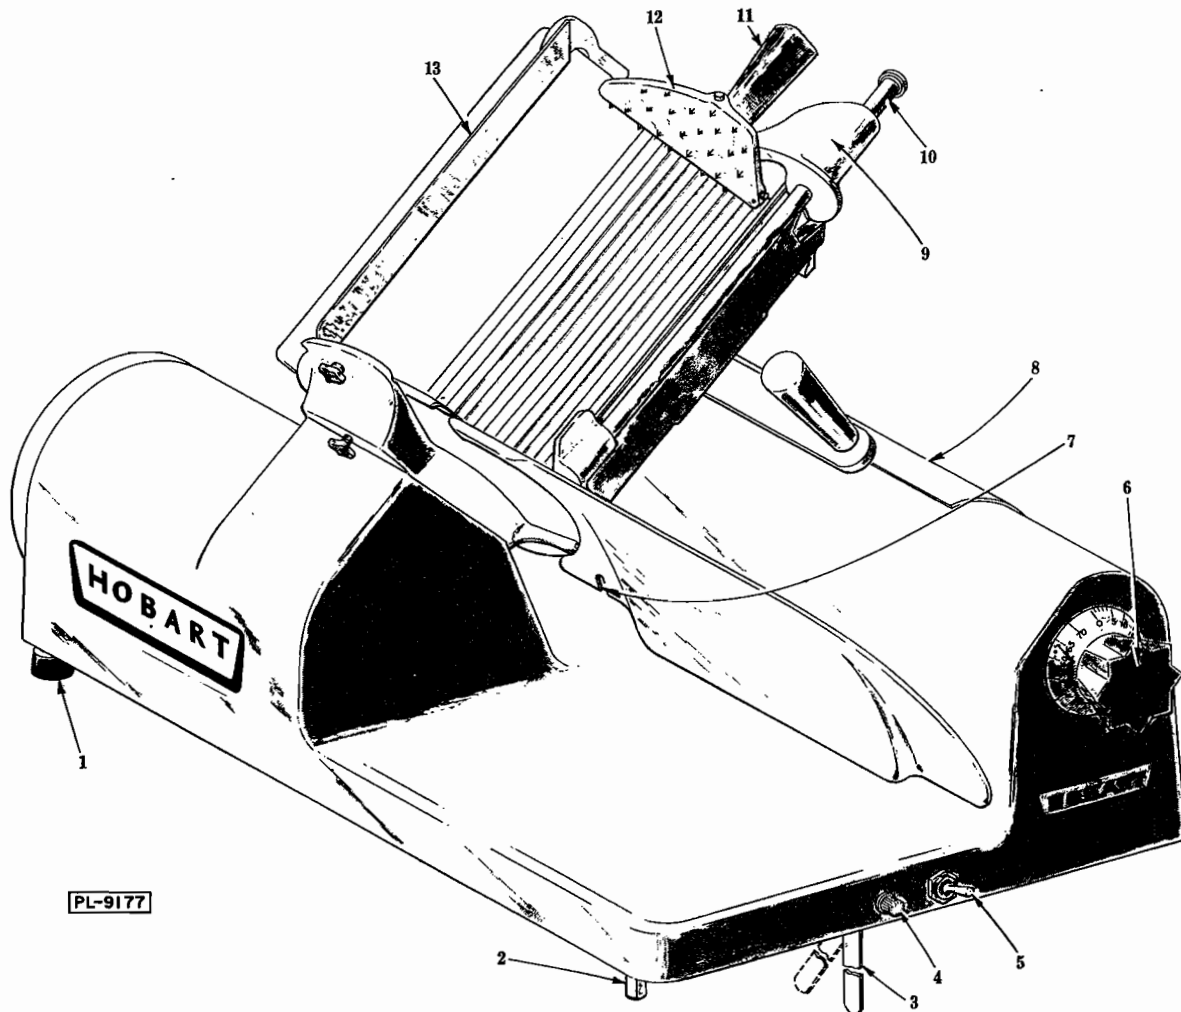

Fig. 1
The three rubber feet (1, Fig. 1) are assembled, but the one helper foot (2, Fig. 1) is removed when the machine is packed for shipment. The helper foot is shipped in a cloth bag and should be installed to the end of its thread at the corner of the base as shown (2, Fig. 1).
Before making electrical connections, CHECK THE SPECIFICATIONS ON THE NAME PLATE (8, Fig. 1) TO MAKE SURE THEY AGREE WITH THOSE OF YOUR ELECTRICAL SERVICE.
The knob or dial (6, Fig. 1) adjusts the thickness of the slices cut. The numbers on the dial do not indicate actual measurements, but are helpful in duplicating past performances. To obtain the maximum slice thickness, it is necessary to turn the knob beyond one complete revolution.
When not actually slicing, turn the slice adjusting knob clockwise as far as it will go. The gage plate will then be in line with the cutting edge of the knife and guard it. A neon pilot safety light (4, Fig. 1) gives warning that the slicer is running, when the operator is not present.
The hub of the meat grip arm (9, Fig. 1) has a shape which prevents swinging the grip (12, Fig. 1) out of the carriage tray to a position where it could mar the finish of the machine. Do not try to force this arm. The grip moves freely at the proper positions and it must be at the top of the slide rod (10, Fig. 1) to swing clear of the tray. When the grip is not needed, move it out of the way by the following procedure:
- Lift the grip to the top of the slide rod (10, Fig. 1).
regular shape, such as cold boiled ham, loaf meats and picnic cuts. For holding odd shapes or short end pieces, use the meat grip (12, Fig. 1). Hold the handle (11, Fig. 1) in your right hand, and press the grip down on the meat at a convenient location. The grip swivels so that the spiked surface can be adjusted to the most advantageous position for holding. The carriage can then be moved back and forth with the same hand that holds the grip. The left hand is then free to receive the slices as they come from the knife. The slices may be stacked on the tray surface of the base, which is easily kept clean. A loose tray or platter may be used if so desired. The slicer is turned "ON" and "OFF" by the switch (5, Fig. 1).
Unplug electrical power cord and clean the surface of the machine daily. Make sure the knife guards are in place and the slice adjusting knob is at zero when performing this operation. A pivoting cleaning foot (3, Fig. 1) may be used to support the slicer in a raised position while cleaning. After the cleaning operation fold this foot to its retracted position.
- e. Unscrew the thumb screw on the sharpener until the sharpener slips upward into the slot (7, Fig. 1) at the bottom of the gage plate. Push the sharpener firmly upward, with the right hand, to remove any rocking tendency. Tighten the thumb screw with the left hand.
Keep the meat grip slide rod (10, Fig. 1) clean but do NOT lubricate it.